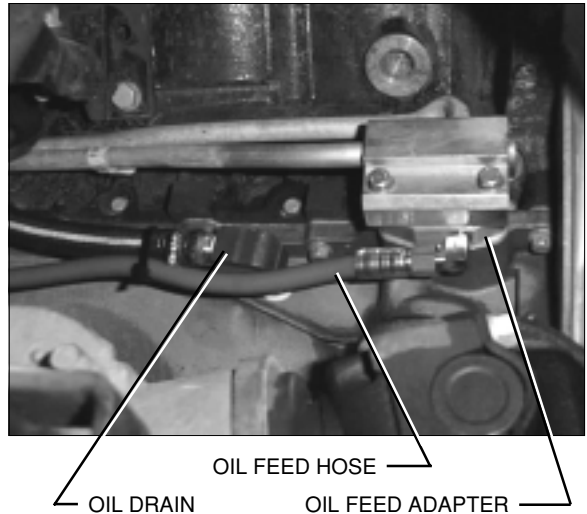

Fig. 4-a
- A. To provide an oil drain for the supercharger, it is necessary to make a hole in the oil pan. Locate and centerpunch the hole per *Fig. 4-a*. Drill a 1/8" pilot hole at center location.
- E. Route the oil drain hose from the supercharger to the barb fitting, attach and tighten the hose clamp. (See *Fig. 4-a*.)
- C. Using the adapter, the appropriate supplied gasket and the supplied longer 6mm screws, assemble the components as shown in *Fig. 4-a*.
- E. Route the oil feed line from the supercharger to the installed fitting. Use an adel clamp on the side of the oil pan and tie wraps to secure the oil feed and oil drain lines and protect them from kinking, abrasion and high heat areas. (See *Fig. 4-a*.)